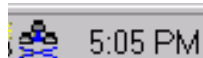

Figure 14 - Tool Tray
3. The MatrikonOPC Data Manager logo appears in the **Tool Tray** (Figure 14).